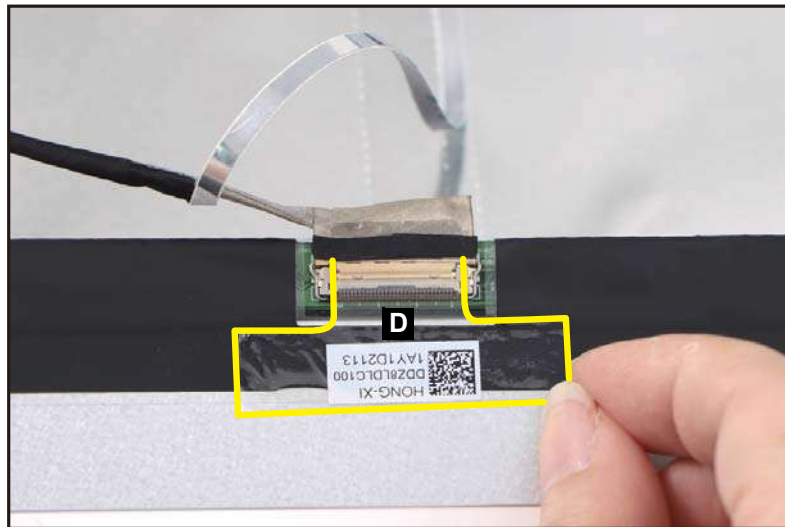

Figure 3-59. LCD Panel Removal
3. Carefully turn the LCD panel over so that the display panel is facing down on a flat surface. Then detach the mylar tape (D) securing the LCD cable to the LCD panel (Figure 3-59).